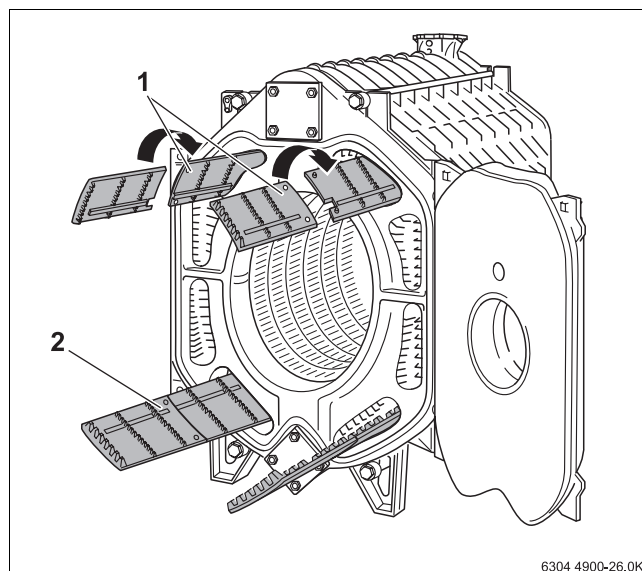
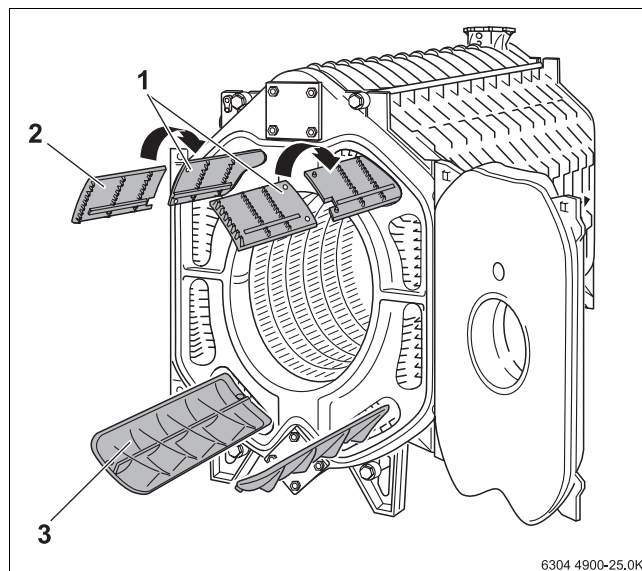
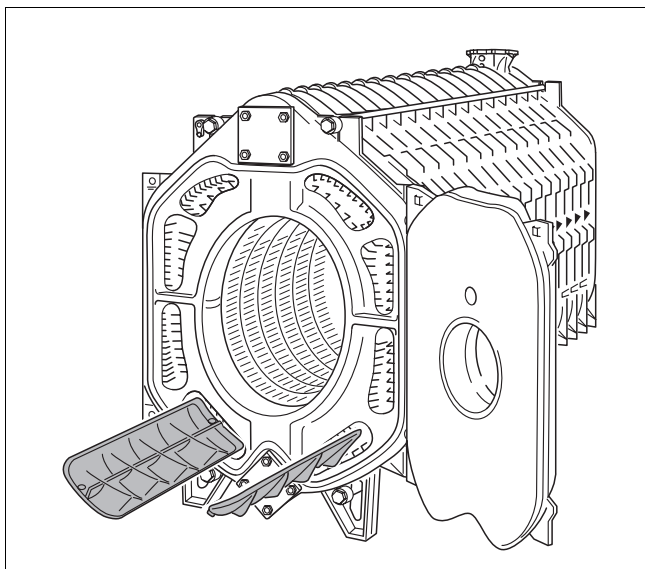

Fig. 30 Inserting the hot gas baffles (boiler block with 9 sections)
Fig. 31 Inserting the hot gas baffles (boiler block with 13 sections)
Fig. 32 Inserting the hot gas baffles (boiler block with 15 sections)
The hot gas baffles with a sickle profile come in two parts. If equipping a hot gas flue with sickle-profile baffles, you **MUST** ensure that the two baffle parts are hooked together. The baffle parts are shown hooked together in → Fig. 31, page 23.
- ▶ Take hot gas baffles from the fittings case and insert into the hot gas flues according to the inscription on them (→ see Fig. 30, Fig. 31, page 23, Fig. 32, page 24 and the following Tab. 12, page 24).